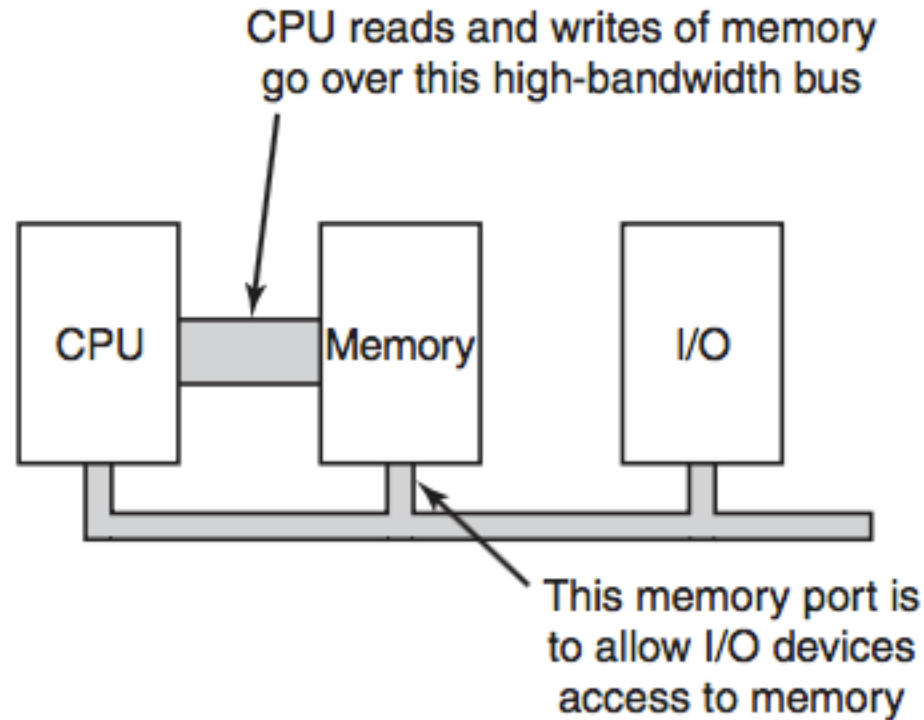

Figure 5-3(b) A dual-bus memory architecture
- Figure 5-3(b) shows one way of having memory-mapped I/O even in the presence of separate buses for memory and I/O devices, namely, to first try the memory bus and if that fails try the I/O bus. A clever computer science student has thought of an improvement on this idea: try both in parallel, to speed up the process of accessing I/O devices.